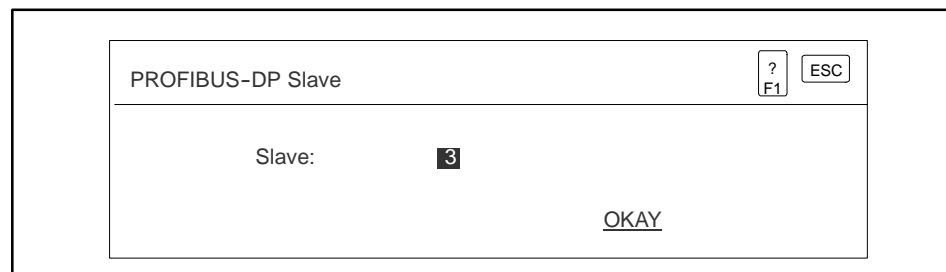

Figure 9-26 Specifying the Slave Address
3. Press **Enter**. The PROFIBUS-DP Slave dialog box appears (Figure 9-26).